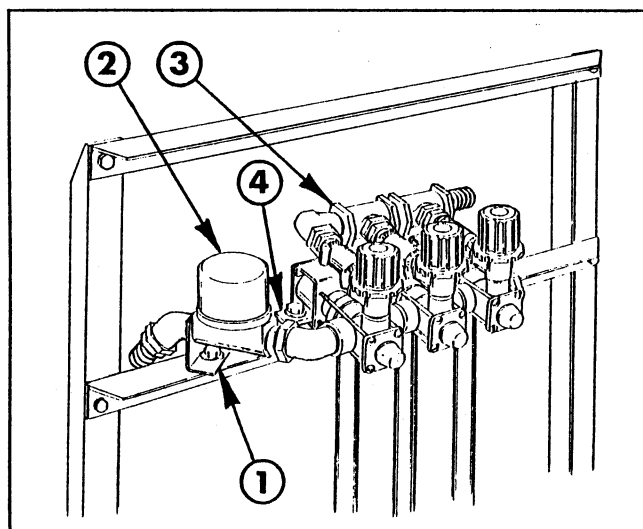

FIG. 15
55. Position the control valve bracket, apply thread sealer and install the 3/4" 45 degree elbow, and the 3/4" x 1" hose barb in the inlet port of the control valve (FIG. 15).
56. Apply sealer and install the 3/4" close nipple and 3/4" 45 degree elbow in the outlet port of the control valve (FIG. 15).
57. Apply sealer and connect control valve assembly to the solenoid assembly by screwing them together. See FIG. 15.
59. Position the complete control valve and solenoid assembly on the lower cross support with the solenoid assembly centered as shown in FIG. 15. Slide the solenoid mounting strap into position and secure with (4) 5/16" x 1" hex hd cap screws, (10) washers, and (4) nuts. Place four washers on top of the mounting strap, two at each end in between the strap and the cross support, and four under the cross support.
60. Attach the control valve bracket to the cross support with a 5/16" x 3/4" cap screw, flat washer, and nut (FIG. 15).
61. Connect the boom feeder hoses to the barbs in the electric solenoids with hose clamps. The (2) 3/4" x 50" hoses are to be attached to the hose barbs in the left and right solenoids. The 3/4" x 36" hose is to be attached to the barb in the center solenoid (FIG. 15).